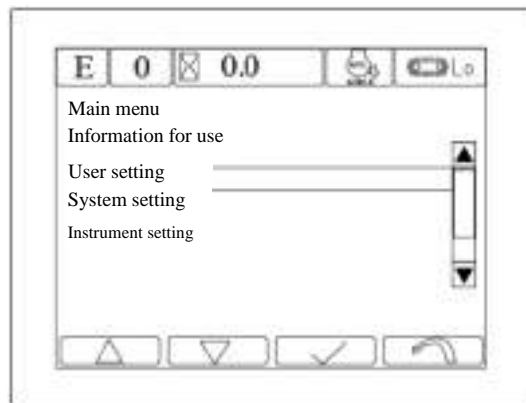

Figure 3-28 Main menu Interface
a) Press F3 at the standard display interface to enter into main menu, select user settings with UP and DOWN icons F1 and F2 and press F3 for confirmation; the interface is shown in Figure 3-28.